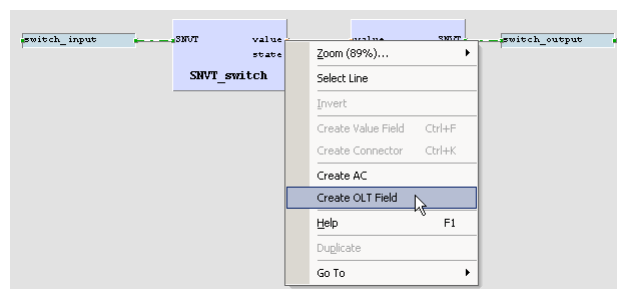

Figure 55: Create online test fields
12. For later debugging, it is good practice to add online test fields to the drawing, to display the current value of the signals during online test. To do this, right-click on the value output of the left function block and select **Create OLT Field** from the context menu, as shown in Figure 55.